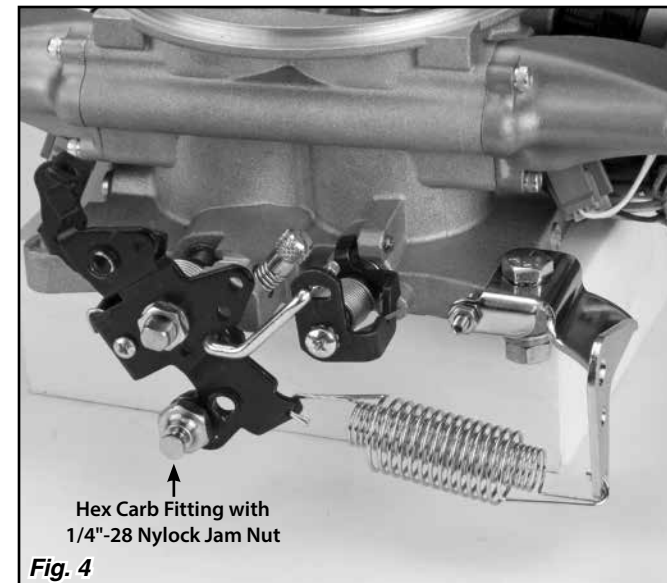

Fig. 4
Step 5: If you will be installing a Kickdown Cable, consult the Atomic 2 installation instructions to determine which kickdown linkage connection hole is correct for your type of transmission. Install the hex carb fitting in the appropriate kickdown linkage connection hole, and secure with the 1/4"-28 nylock jam nut. **Fig. 4**